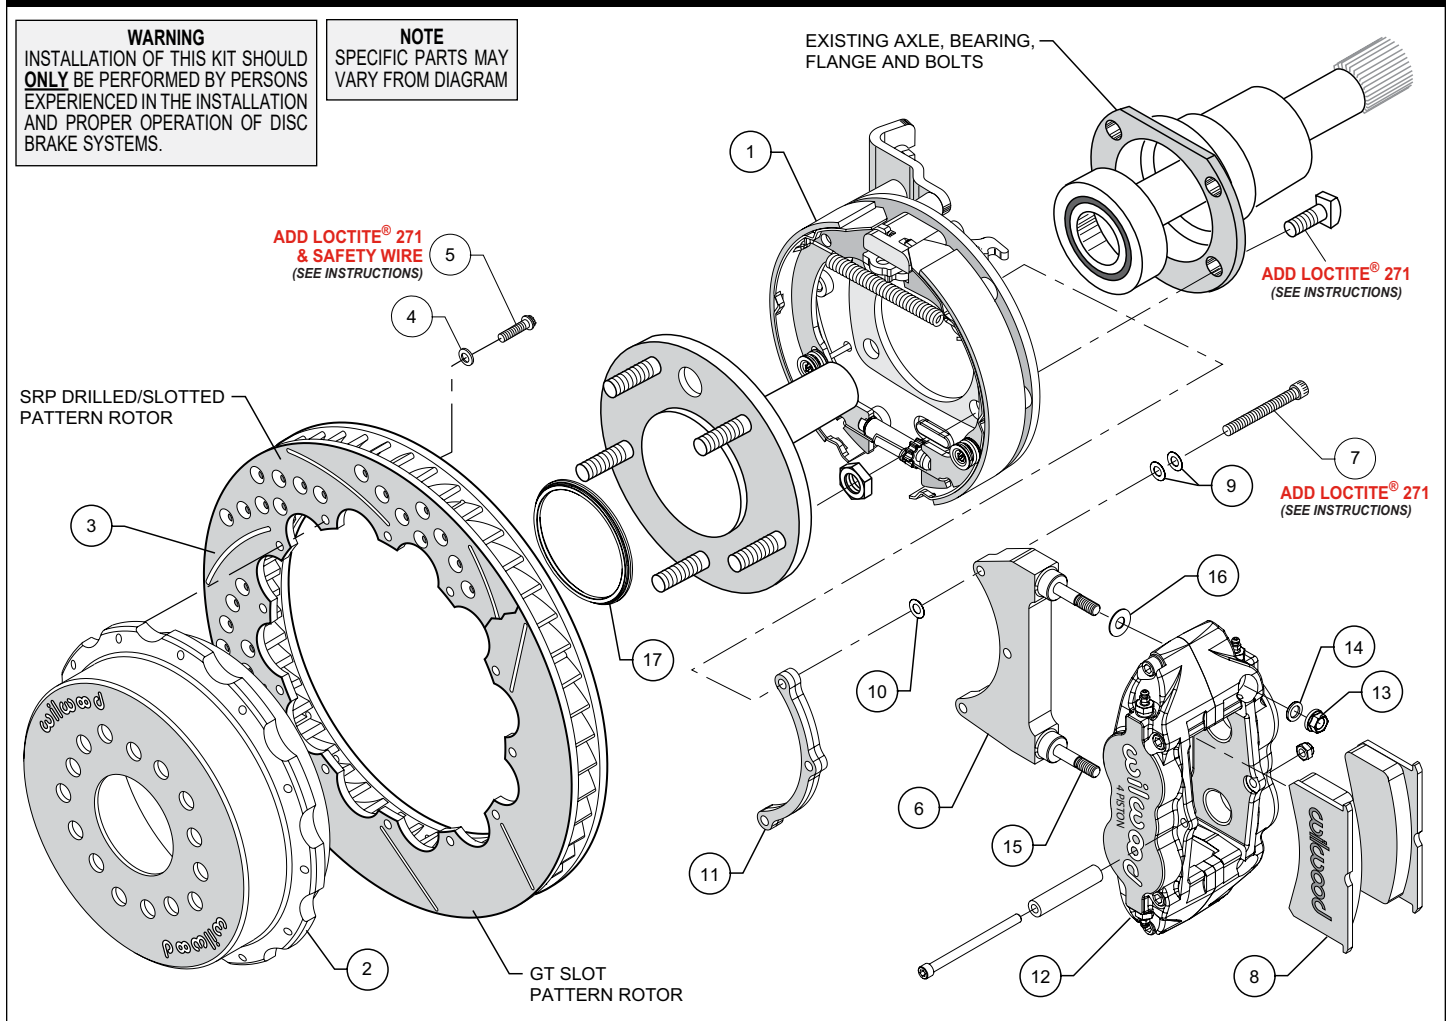

Figure 1. Typical Installation Configuration
The caliper mounting bracket assembly (6) should be installed first with clean, dry threads on the mounting bolts (7). Install the bracket from the rear side of the bracket kit assembly (1) by sliding bolt (7) through two flat washers (9), bracket (6), shim washer (10) and finally through the spacer (11), see Figure 1. **NOTE:** End of bolt should not exceed inside face of insert. The bracket must tighten squarely against the back side of the bracket kit assembly (1). Inspect for interference from casting irregularities, machining ridges, burrs, etc. Use one thin shim (10) between the bracket (6) and spacer (11) during initial trial fitting.
• Install one shim (16) over each pre-installed stud (15) on the radial mount bracket (6). Slide the caliper (12) in place over the studs and rotor, then install the washer (14) and lock nut (13) to hold the caliper in place. Snug the lock nuts (13) and check that the rotor (3) is centered in the caliper (12). Add or subtract .015" shims (10) as necessary between the caliper mounting bracket (6) and the spacer (11) to center the caliper (12).
• Remove the caliper center bridge pad retainer bolt, nut, and tube from the caliper. Slide the brake pads (8) into place. They should install easily without interference. Check that the outside radius of the brake pad is aligned with the outside diameter radius of the rotor face. Add or subtract shims (16) between the caliper (12) and mount bracket (6) to gain the proper alignment. Reinstall the center bridge pad retainer tube, bolt, and locknut. The locknut should be snug without play in the bolt or tube. Be cautious not to over tighten.
• Adjust the parking brake shoes outward (using a drum shoe adjustment tool available at your local auto parts store) while spinning the hat (2) until a slight drag is felt against the hat/drum. Remove the lug nuts that were holding the hat/rotor in place. Install the wheel and lug nuts. Check to see that the wheel rotates freely without interference.
• Once all clearances have been checked, remove the wheel, caliper, hat/rotor from the bracket kit assembly (1). Secure the caliper mounting bracket (6) to the bracket kit assembly (1) using red *Loctite*® 271. Torque bolts (7) to 180 in-lb. Reinstall the hat/rotor assembly and again use lug nuts to hold it in place. Reinstall the caliper and torque the caliper nuts (13) to 30 ft-lb.
• **NOTE:** Clevis and cable kits which attach to the parking brake assembly are not included in the Wilwood parking brake kit. Wilwood offers a generic style parking brake cable kit, P/N 330-9371 for this application which can be ordered separately from your local Wilwood dealer or by calling Wilwood customer service at (805) 388-1188.